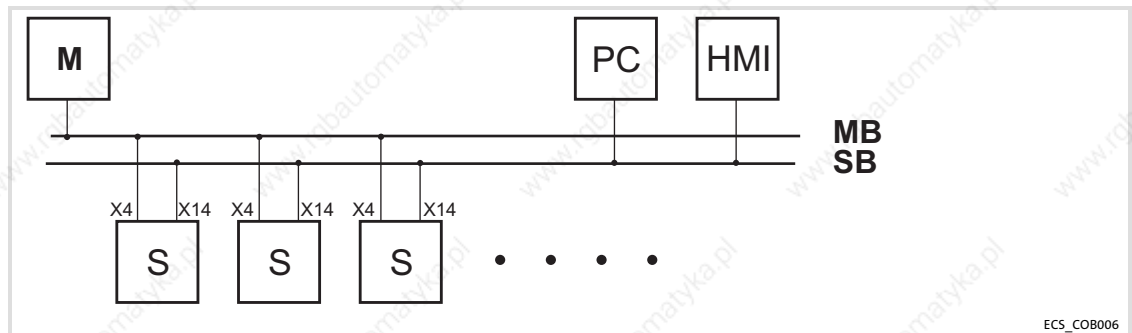

Fig. 5-15 MotionBus (CAN) with higher-level control
- ▶ In Fig. 5-15 a higher-level control takes over the function of the master, e. g. ETC.